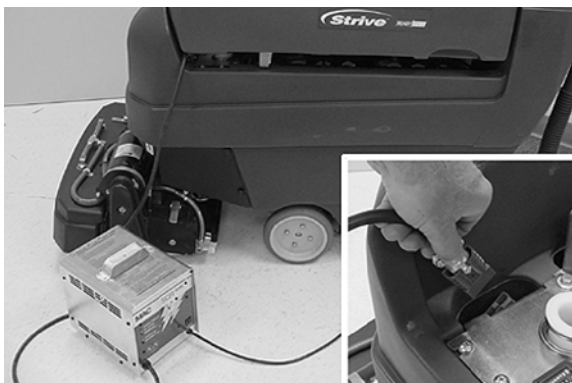

FIG. 29
- Recharge the batteries (Figure 29). See CHARGING BATTERIES.